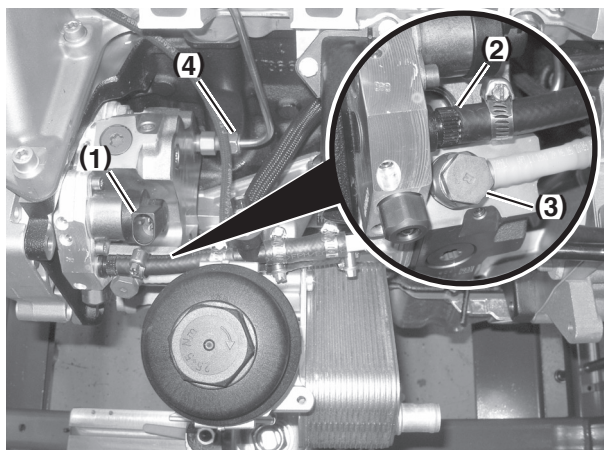

Figure 6-20
5. Disconnect electrical connector (**Figure 6-20, (1)**) from fuel measuring unit.
6. Disconnect fuel supply line (**Figure 6-20, (2)**). *NOTICE: Immediately cap or plug all openings to prevent contamination of system.*
7. Remove banjo bolt (**Figure 6-20, (3)**) and disconnect fuel return line.
8. Remove high-pressure line (**Figure 6-20, (4)**) between pump and fuel rail using special tool OEM No. 13 5 020.